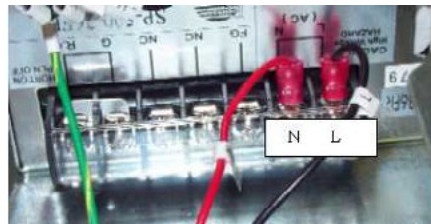

Figure 1 - Bottom Wiring Block (Switch Interface Leads)
4. Attach the ring connectors of the switch interface harness to the power supply wiring blocks as shown in Figure 1 above. Tighten the screws enough to hold them securely but do not over tighten them.